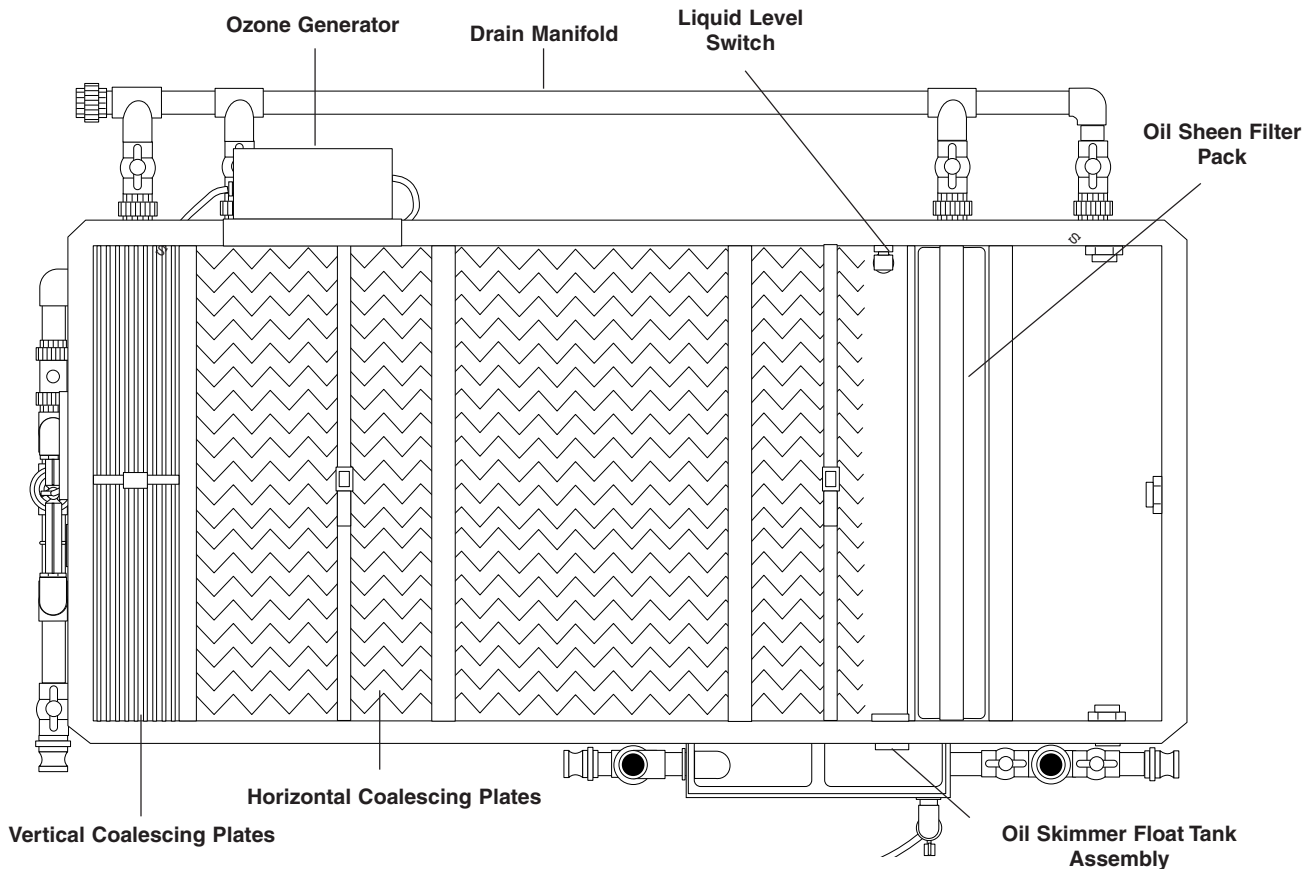

Figure 6
- Remove the filter pack (suitcase like filter, see Figure 6 for location) by removing the retaining bracket and lifting up with the handles on the filter, as shown below.